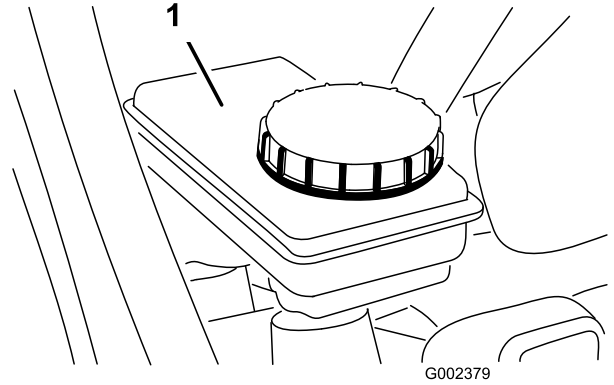

Figure 24
2. The fluid level should be up to the Full line on the reservoir (Figure 24).